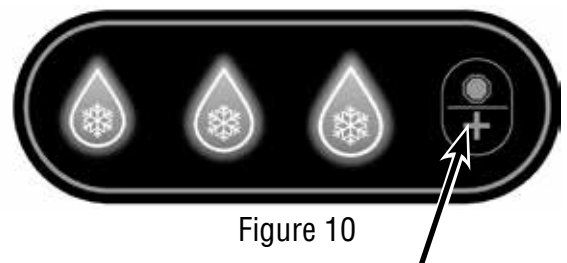

Figure 10
2. Dispense water from the STILL WATER lines by pressing & holding the "+" button (Figure 10), till the cloudy appearance dissipates and the water flows clear.